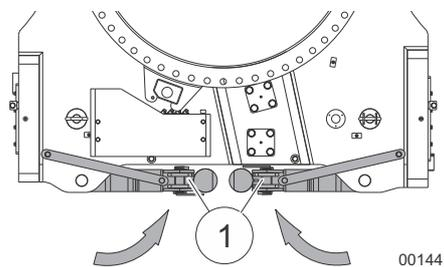

Fig. 140 Stowing the outrigger cylinders
15	Stow the outrigger cylinders (1) in Fig. 140 on the front and rear of the undercarriage.